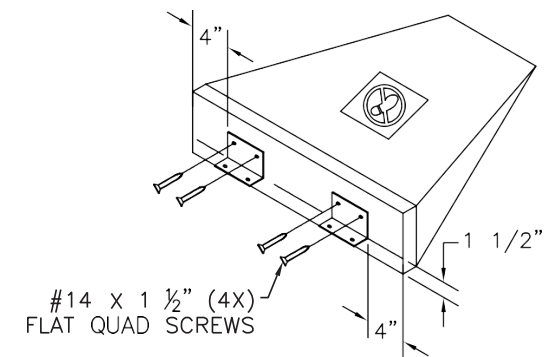

FIG 21
- Measure 1-1/2" above bottom of each pad (Figure 21).